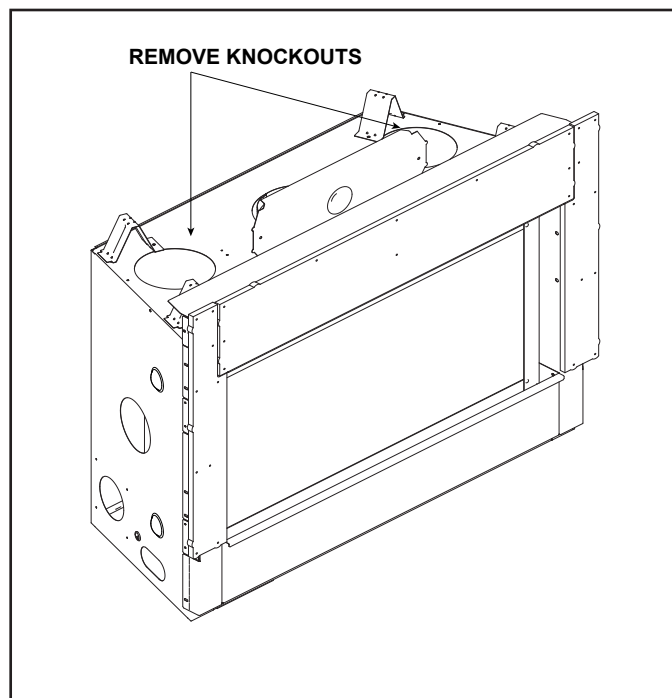

Figure 6.5 Proper Positioning, Leveling And Securing Of Appliance
- Center the duct collar or passive heat adapter around the exposed hole and attach it to the appliance. See Figure 6.5.
Passive Heat may be used with HEAT-OUT-GAS or one HEAT-ZONE®-GAS. The dedicated knockouts, as shown in Figure 6.5, must be used only as indicated. Passive Heat cannot be used with the Smart-Wall TV Kit or optional fan.